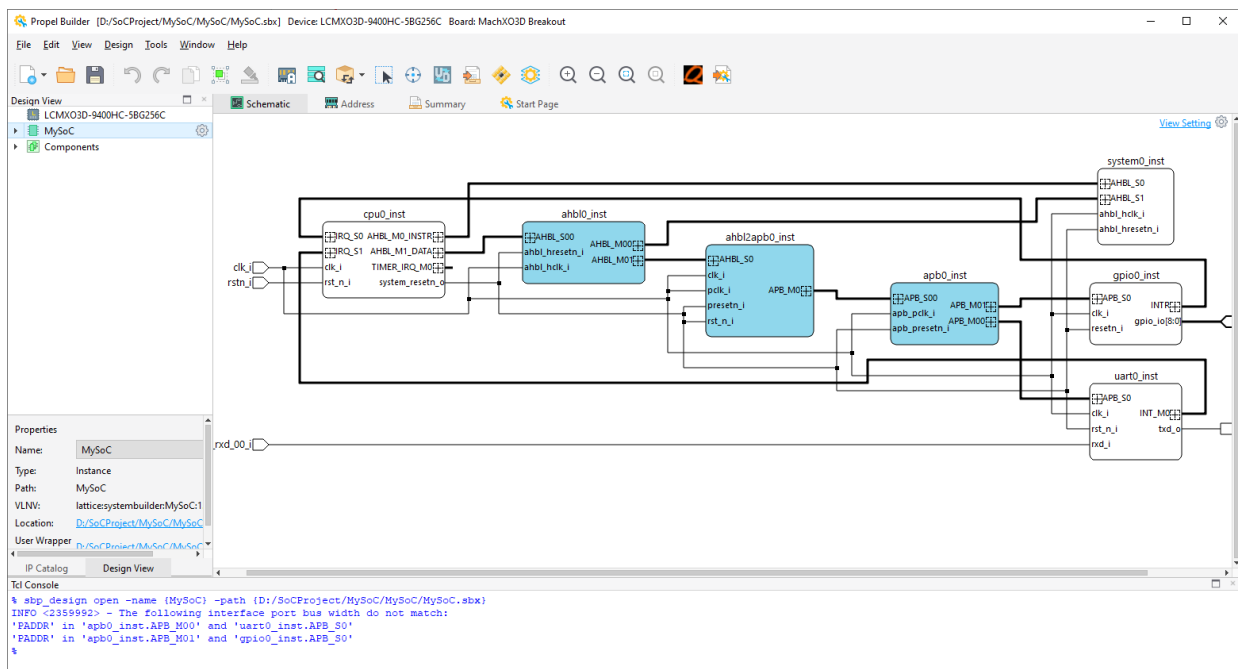
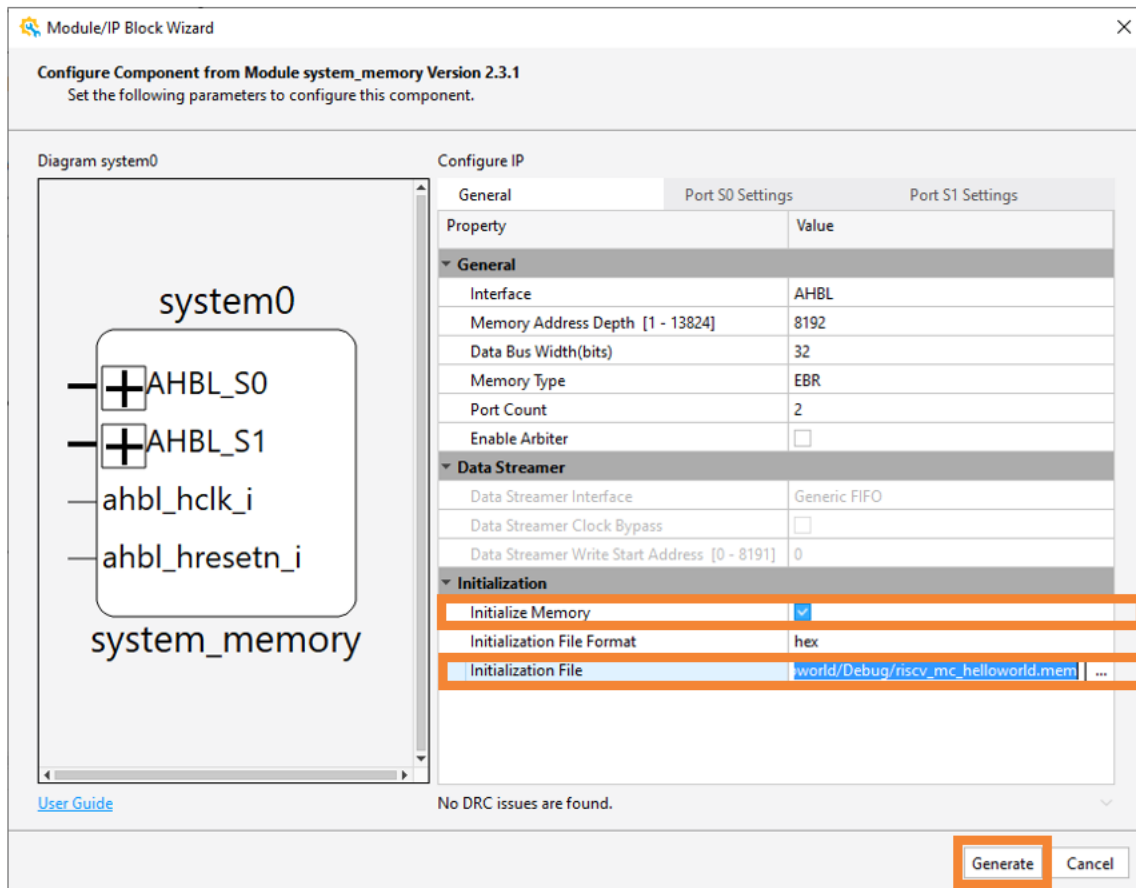

Figure 6.10. Project Workbench
Figure 6.13. Configuring System Memory Module 2
8. Click **Finish**. An SoC project is created, as shown in Figure 6.10.
1. In the SoC project workbench (Figure 6.10), choose **Design > Generate > Generate** to create C project requirement files. Choose **Design > Run Propel** to switch to Lattice Propel SDK.
In the SoC project workbench (Figure 6.10), update the SoC design to set the preloaded software. Select the **Initialize Memory** checkbox for the System Memory IP instance from the **Initialization** area of the **General** tab. Set the **Initialization File** (Figure 6.13) generated from the corresponding Hello World C project in the **Creating a Hello World C Project** section. Click **Generate** (Figure 6.13).
In the SoC project workbench (Figure 6.10), choose **Design > Generate > Generate**.
1. In the SoC project workbench (Figure 6.10), choose **Design > Run Diamond**. A Lattice Diamond project is created and opened automatically in the Lattice Diamond software.